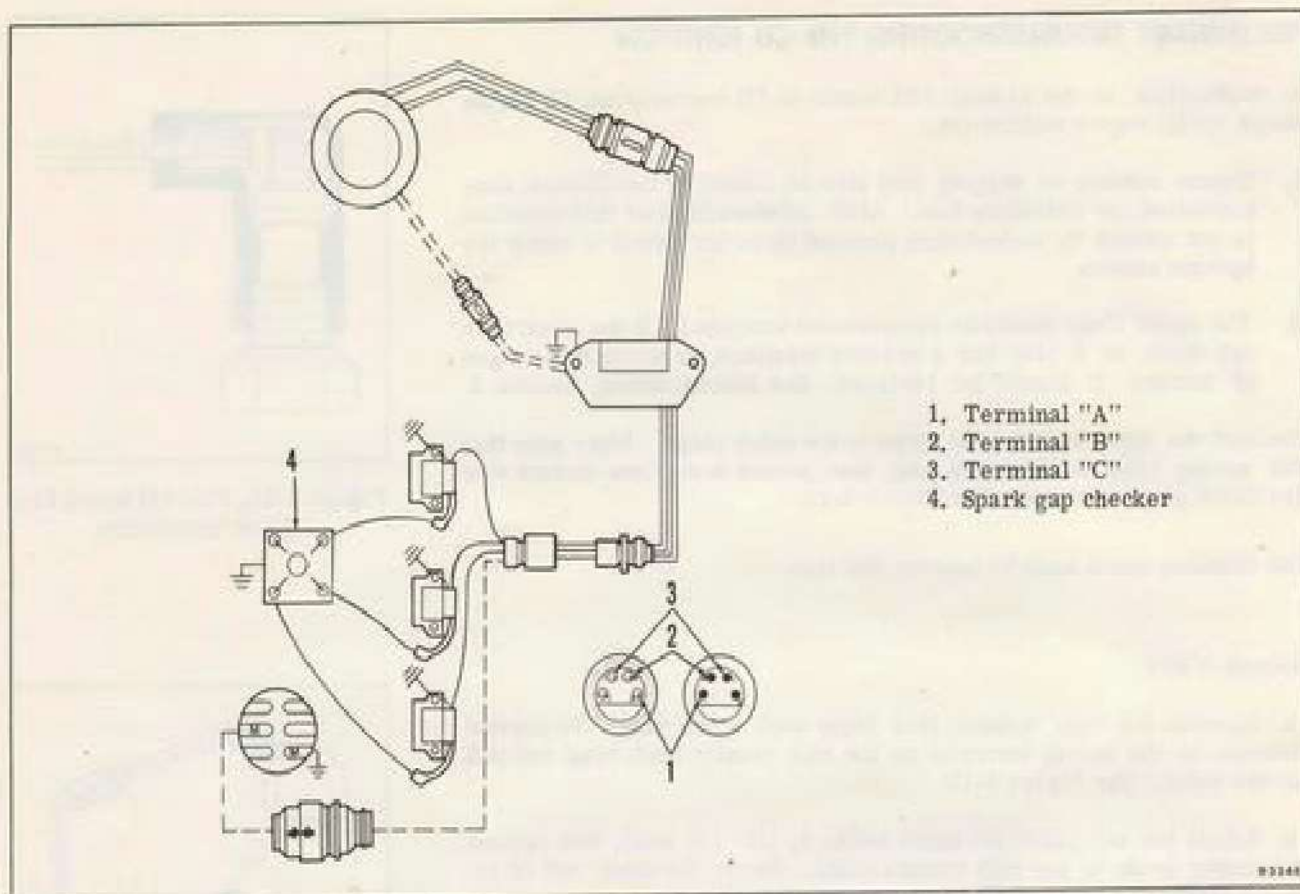

Figure 4-19. Key Switch Elimination Test
- a. Separate the four-wire connector that connects the power pack to the ignition coils and key switch. See Figure 4-19.
- b. Insert a jumper wire between the "A" terminals of the four-wire connector. See Figure 4-19.
- c. Insert a jumper wire between the "B" terminals of the four-wire connector. See Figure 4-19.
- d. Insert a jumper wire between the "C" terminals of the four-wire connector. See Figure 4-19.